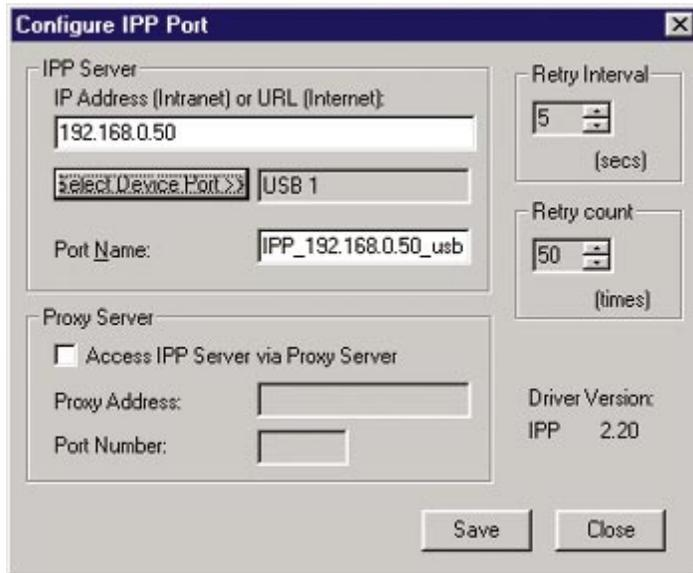

Figure 8-3
3. Click the **Port Settings** or **Configure Port** button (Details or Port tab, depending on your version of Windows). The Configure IPP Port screen (shown in Figure 8-3) will appear.